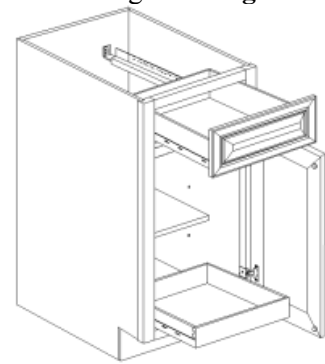

Figure 4
5. Finally , put on the drawer box on the guide . **Figure 4**